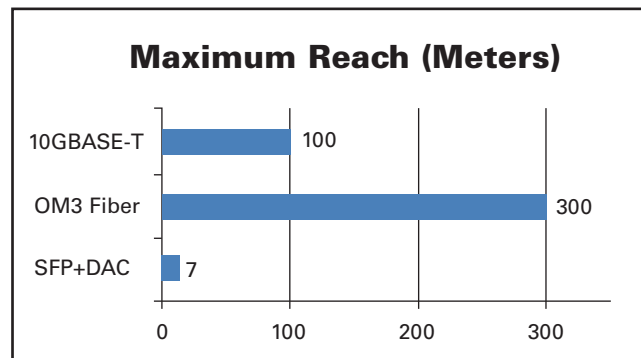

Figure 1. Maximum reach of various 10 Gigabit Ethernet cabling options.
- **Cable lengths up to 100 meters**, sufficient to support nearly all data center topologies (see Figure 1)